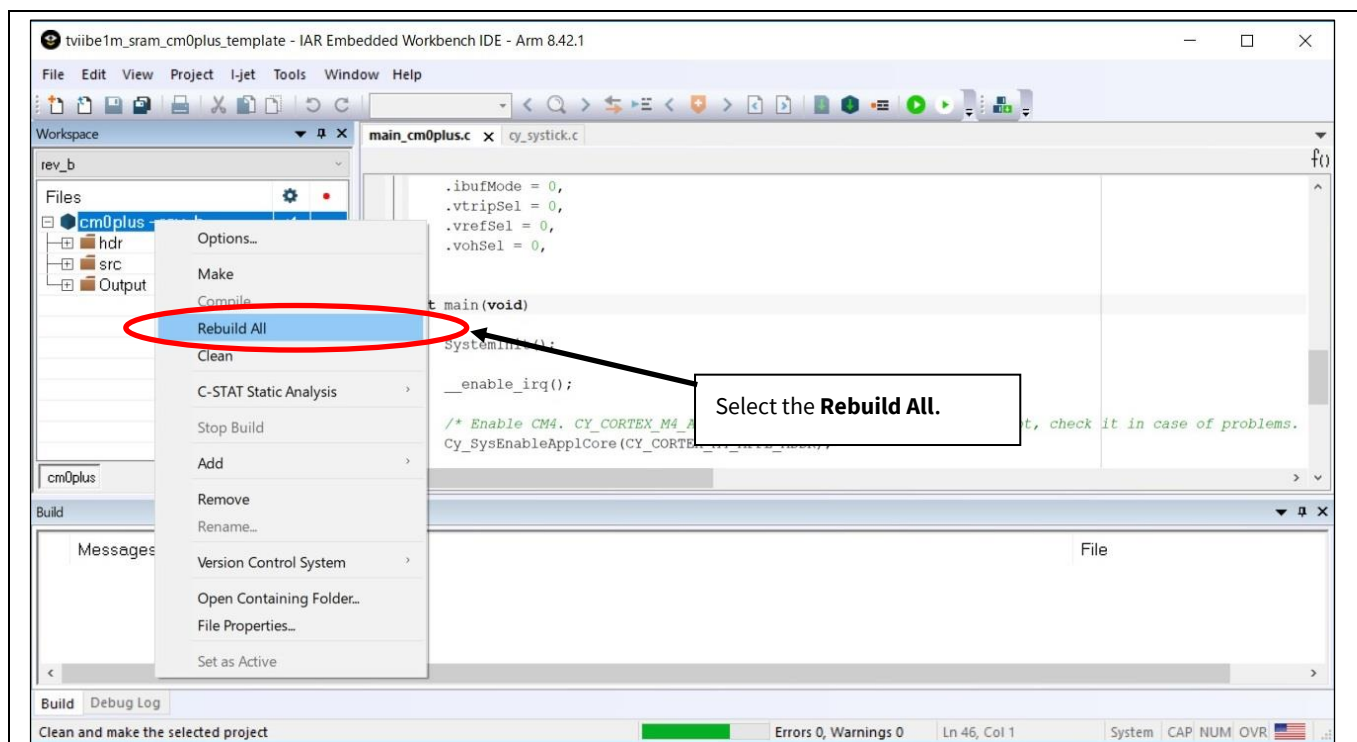
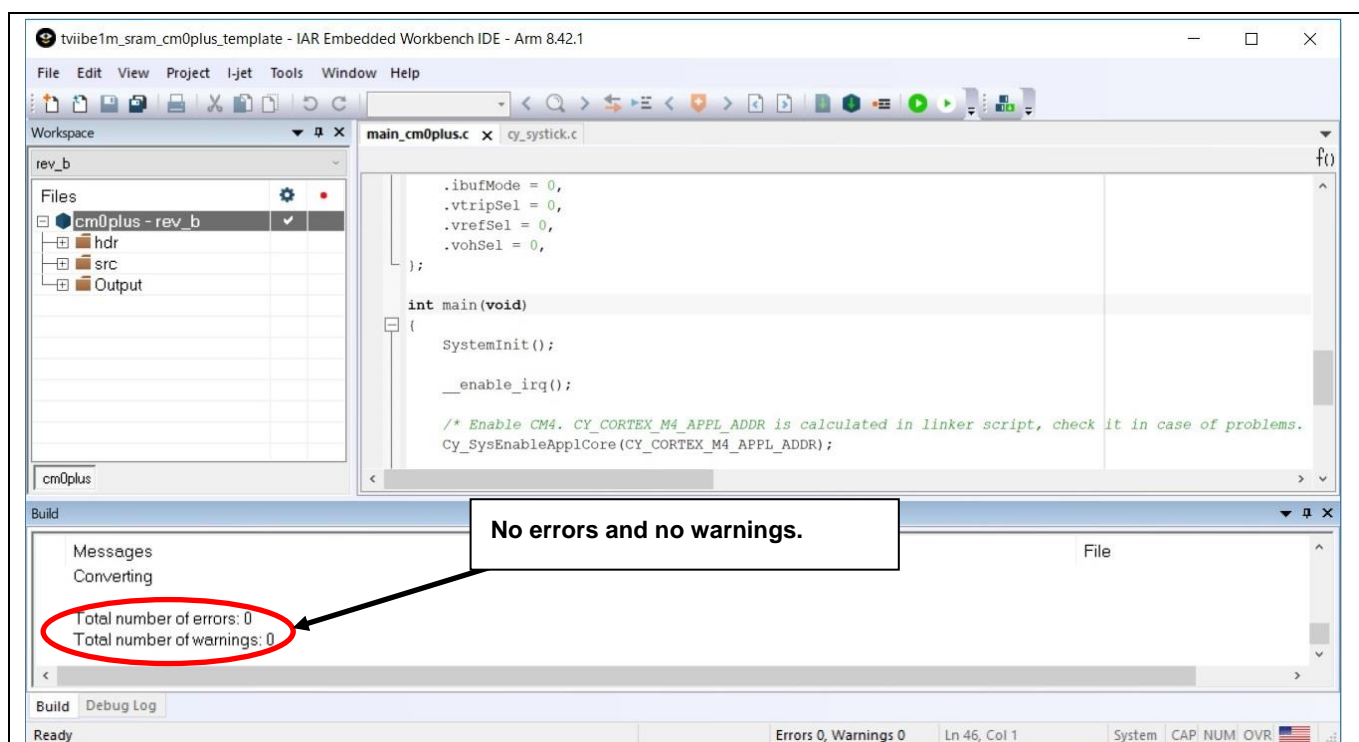

Figure 21 Rebuild the project of SDL project
Figure 22 Rebuild successful of the project of SDL project
- For the build, select *cm0plus.eww* on the workspace and right-click and select **Rebuild All** as shown in Figure 21. The Rebuild All process starts, and no errors and no warnings messages appear as shown in Figure 22.